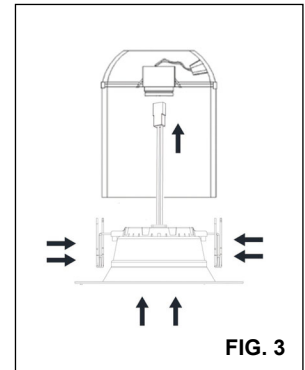

FIG. 3
3. Plug the FEMALE CONNECTOR of the RETROFIT KIT onto the MALE CONNECTOR of the SOCKET ADAPTER ASSEMBLY. **(FIG. 3)**
4. Squeeze both TORSION SPRING arms together and insert into the CAN. **(FIG. 3)**
1. Plug the FEMALE CONNECTOR of the RETROFIT KIT onto the MALE CONNECTOR of the LED HOUSING. **(FIG. 3)**